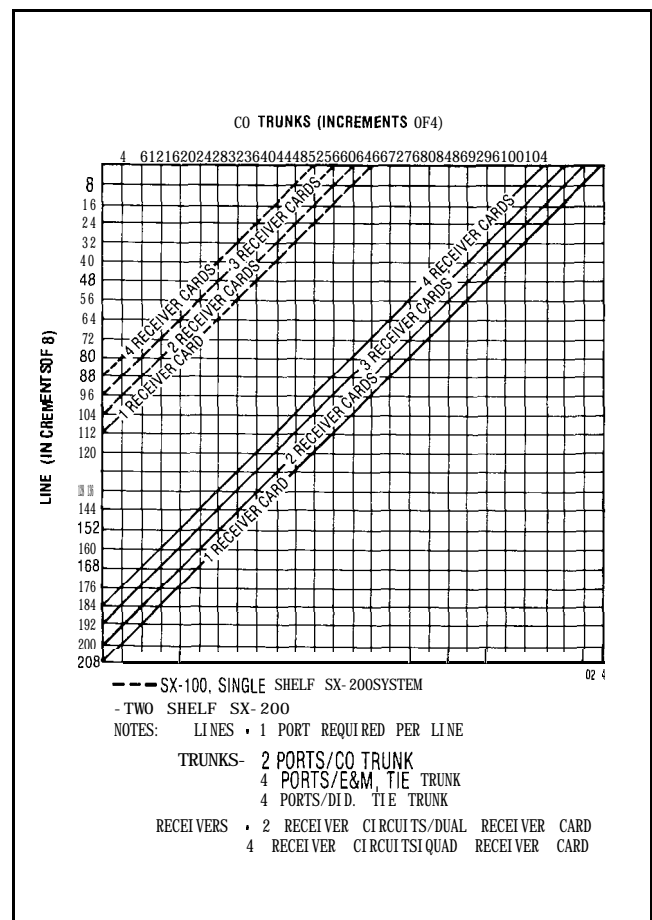

Fig. 2-1 Maximum Line and Trunk Configuration
- The maximum possible combination of trunks and lines which can be accommodated is dependent upon the number of receivers installed and is illustrated in Fig. 2-1.
2.02 The PABX's are electrically compatible with most existing extension key telephone, Private Branch Exchange (PBX) and Central Office (CO) equipment and provide
- The simultaneous use of DTMF and rotary dial (RD) stations